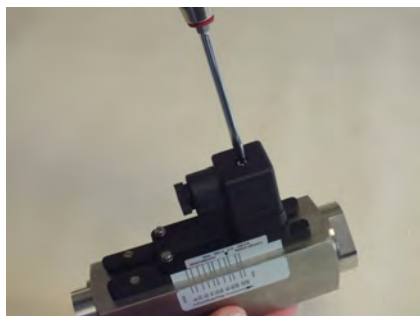

Fig. 22: Detach socket
1. ➤ Release the fixing screw (Fig. 22) from the socket